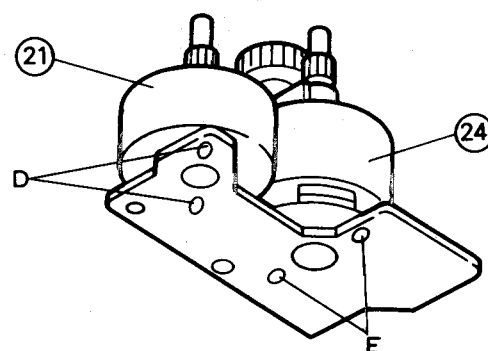

Fig. 7-33
■ Leaf Switch P.C. Board (Refer to Fig. 7-33)
1. From the chassis base, remove the screw (39) retaining the leaf switch P.C. board.